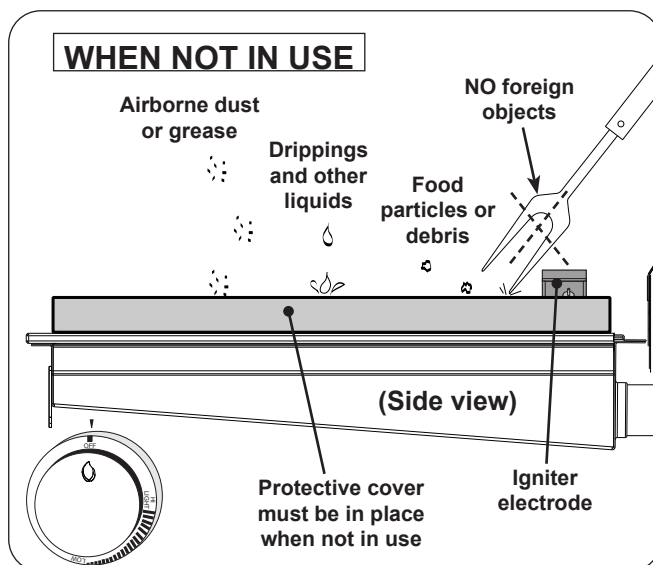

Fig. 40-2 Infrared burner - WHEN NOT IN USE
- When not in use, **always** cover the infrared burner with the stainless-steel cover. This protects the burner from drippings (from other cooking), water, airborne particles, and foreign objects (Fig. 40-2).
- Do not strike or scrape the ceramic portion of the burner as it may chip, crack, or break (Fig. 40-2).